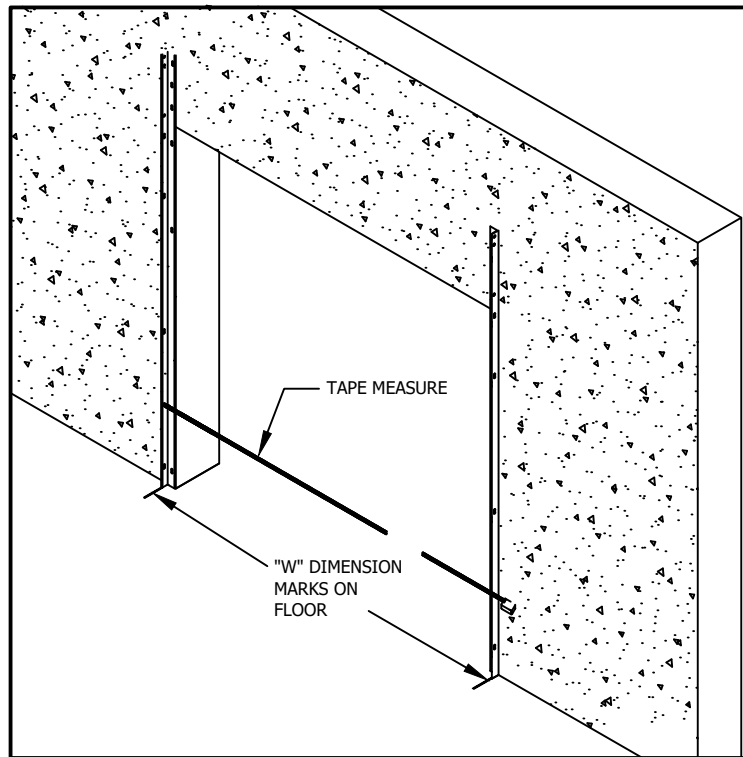

FIGURE 10
- Install second wall angle by placing it at the "W" dimension marked on the floor at the second jamb as shown in Figure 10. Shim if necessary.
- d. Use a tape measure while attaching the second wall angle to maintain a consistent "W" dimension all the way to the top as shown in Figure 10.